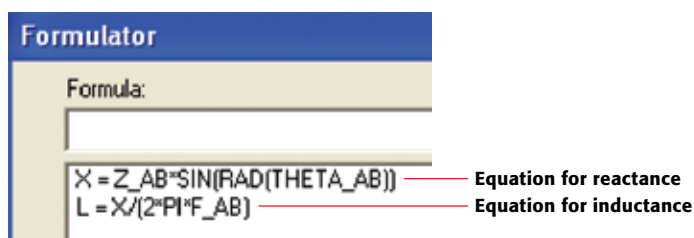

Figure 2
3. Open the Formulator and type in the formula for the reactance using the Data Series parameters Z, Theta, and F. The units for "Theta" are in degrees. To use the trigonometric functions in the Formulator, you must convert the units to rads using the "RAD" function as shown in **Figure 2** for a device with terminals A and B: